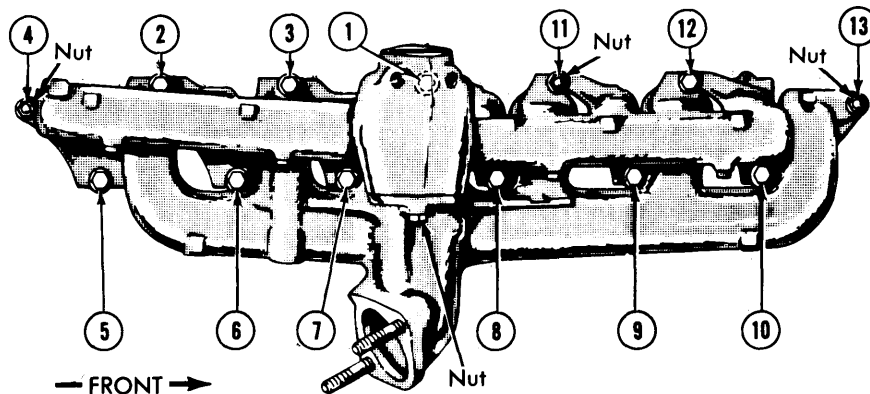

Fig. 1 Tightening Sequence for Intake and Exhaust Manifold
3) Coat mating surfaces lightly with graphite grease, place manifold assemblies in position against cylinder head. Make sure gaskets have not become dislodged. Install attaching washers, bolts, and nuts. Torque bolts and nuts to specifications using sequence shown in *Fig. 1*. If intake and exhaust manifolds were separated, tighten nuts joining both parts.